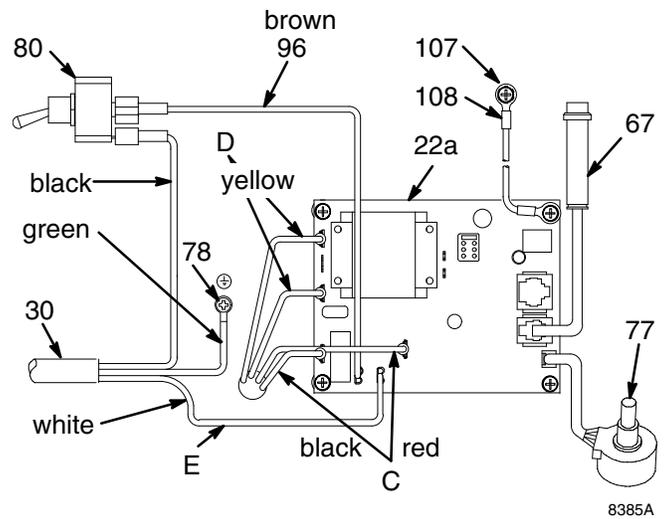

Fig. 4
4. Fig.4. Remove screws (25, 26). Lower control board (22a). Disconnect two leads (C) from motor to board.
1. Fig. 4 Connect red and black motor leads (C) together with a test lead. Turn motor fan by hand at about two revolutions per second.
10. Align new motor with cart and reinstall screws (75).
12. Connect wires to motor control board (22a). Refer to Fig. 4. Install motor control board.
13. Connect piston rod (222) to drive housing; see page 11, **Installing Pump**, Step 2 and WARNING following it.
14. Install shroud (32) and drive housing cover (11).
3. Disconnect wires (C), (D), (96), (E) and 108 from motor control board (22a). See Fig. 4.
4. Disconnect potentiometer (77) and transducer (67) from motor control board (22a).
6. Install new motor control board (22a) with four screws. Reconnect all wires and secure heat sink (22) to junction box (20).